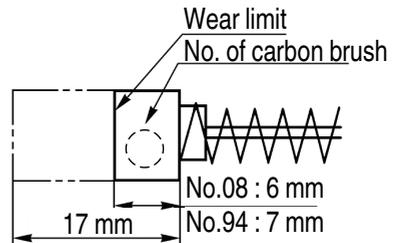

Fig. 11
4. Inspecting the carbon brushes: **(Fig. 11)**